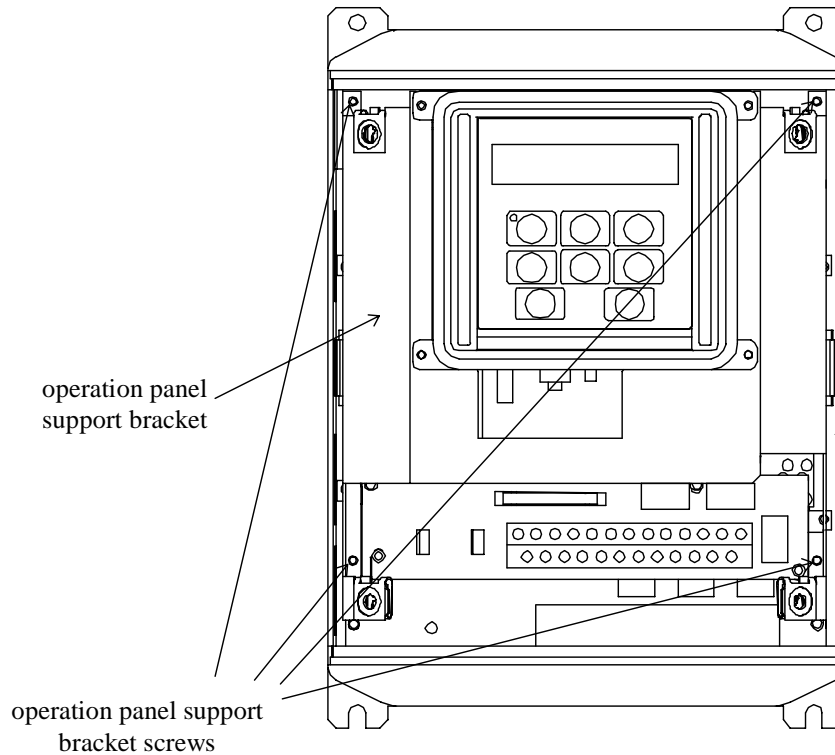

Figure 3: *G3 with front cover removed*
4. Loosen the 4 screws attaching the G3's operation panel support bracket to the control board support bracket and remove the operation panel and support bracket as a unit (refer to Figure 3).